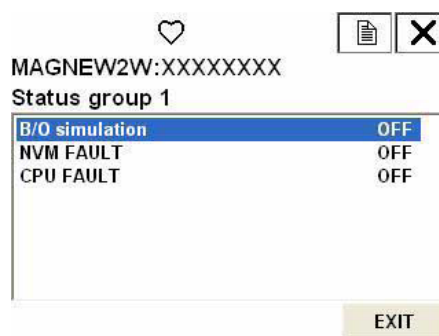

Figure 7-91
2. There are 3 groups. Each group has different items to be verified. Figure 7-91 shows an example of “status group 1”.